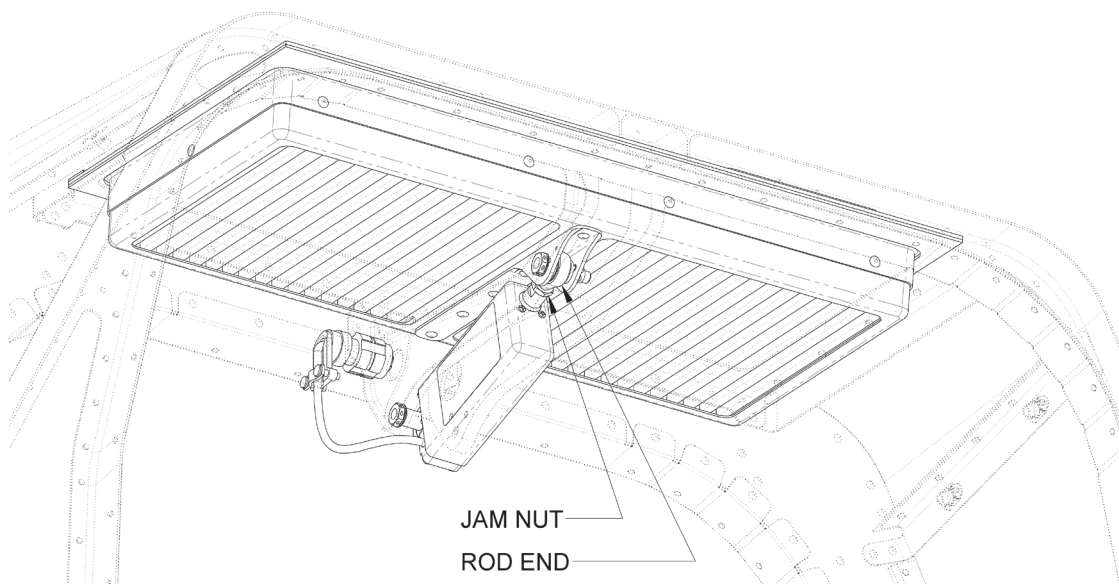

Figure 11 ACTUATOR ADJUSTMENT
- c. Remove the safety wire and bolt that connects Actuator Rod to the Top Filter Assembly and loosen the Jam Nut on the end of the Actuator Rod (Refer to Figure 11).